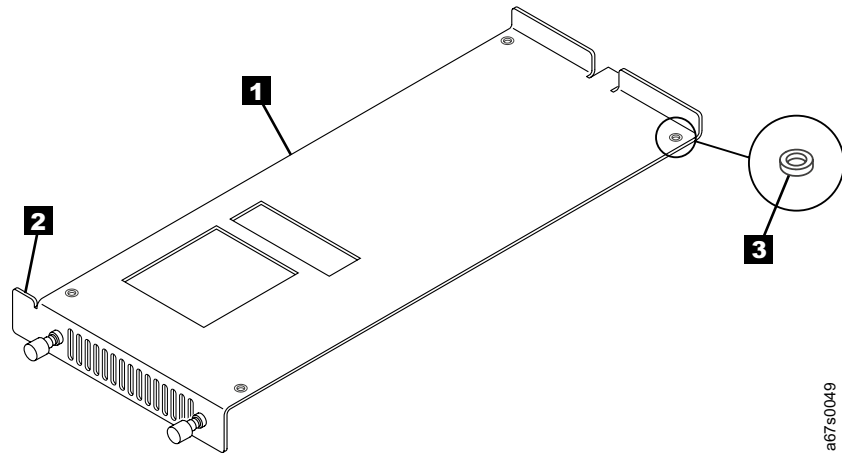

Figure 40. Identifying the left and right sled. The left sled features a left ear; the right sled features a right ear.
1. Decide which sled (see **1** in Figure 40) onto which you want to mount the 3581 Tape Autoloader. The left sled features a left ear **2**; the right sled features a right ear. The two sleds are not interchangeable within the rackmount tray.